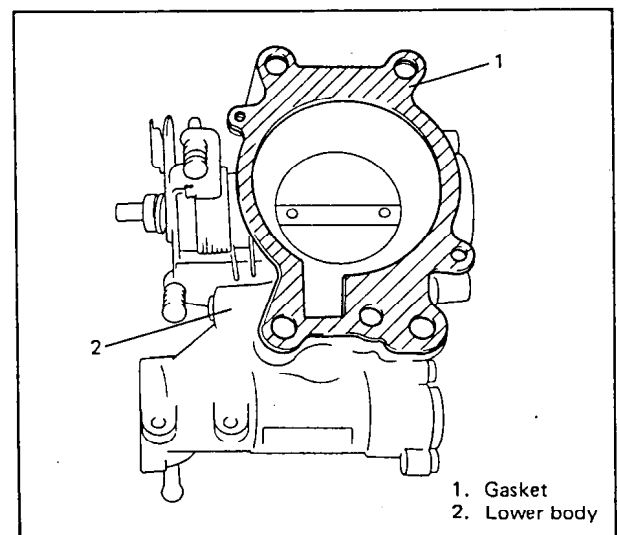

Fig. 6E-100 Installing Gasket
3. Tighten screws indicated by "1" in Fig. 6E-98 to specified torque.